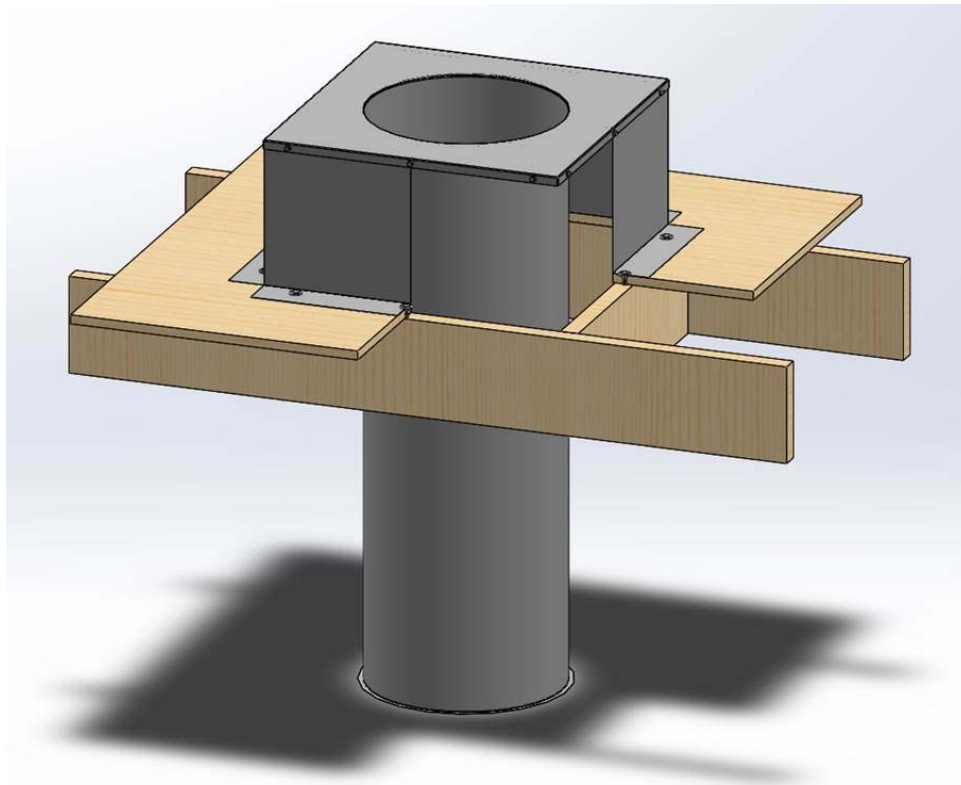

Figure 5. Curb Vertical Supports
- C. CURB VERTICAL SUPPORTS – Use the curb vertical support assembly (see Figure 5) supplied by the duct manufacturer and consisting of a min.